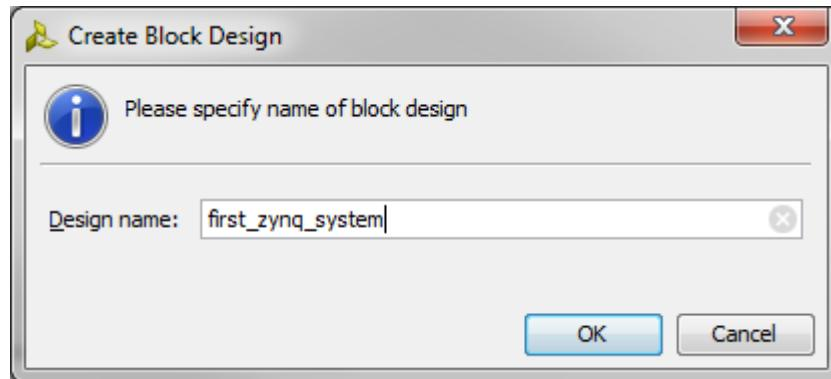

Figure 1.8: Create Block Design dialogue
- (b) Enter ***first_zynq_system*** in the Design name box, as in Figure 1.8: